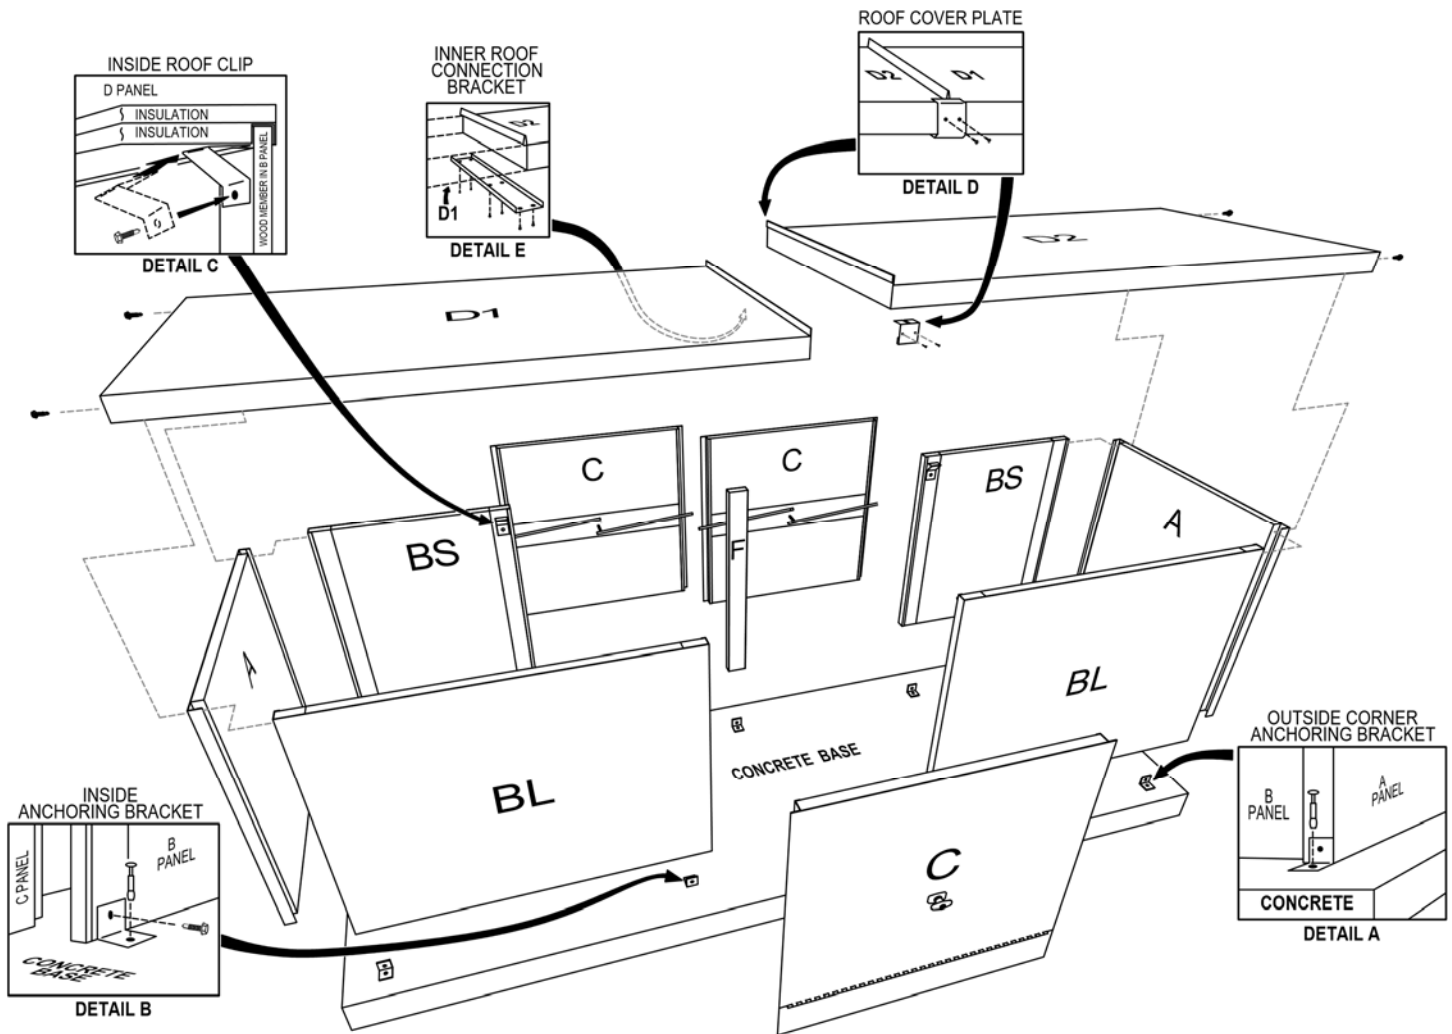

FIG. 2
6. Set the "D1" (roof) panel on a "BS-A-BL" (corner-end-corner) assembly and then fasten it as shown through the holes provided (Fig. 2) using two (2) Hex Head Screws.
10. Complete the anchoring bracket and roof clip installations in the following steps on one side before moving on to the other side of the enclosure. Fastening each anchoring bracket will require two (2) Hex Head Screws installed first and then one (1) Anchor per bracket installed last. Fastening each roof clip will require one (1) Hex Head Screw per clip.
11. Attach Outside Corner Anchoring Brackets (small) at both “A-BS” (corner) assemblies on the first side of the enclosure (Fig. 2A) oriented as shown in Fig. 2, and then fasten them to the concrete.
12. Attach Inside Anchoring Brackets (large) to the “BS” (side) panel studs at the bottom, inside on the first side of the enclosure (Fig. 2B) oriented as shown in Fig. 2, and then fasten them to the concrete.